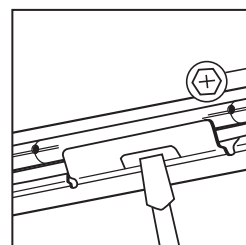

Figure 9
Step 2. Slide frame along bar hangers into desired location. Use locking screws or slot to secure (Fig. 9).